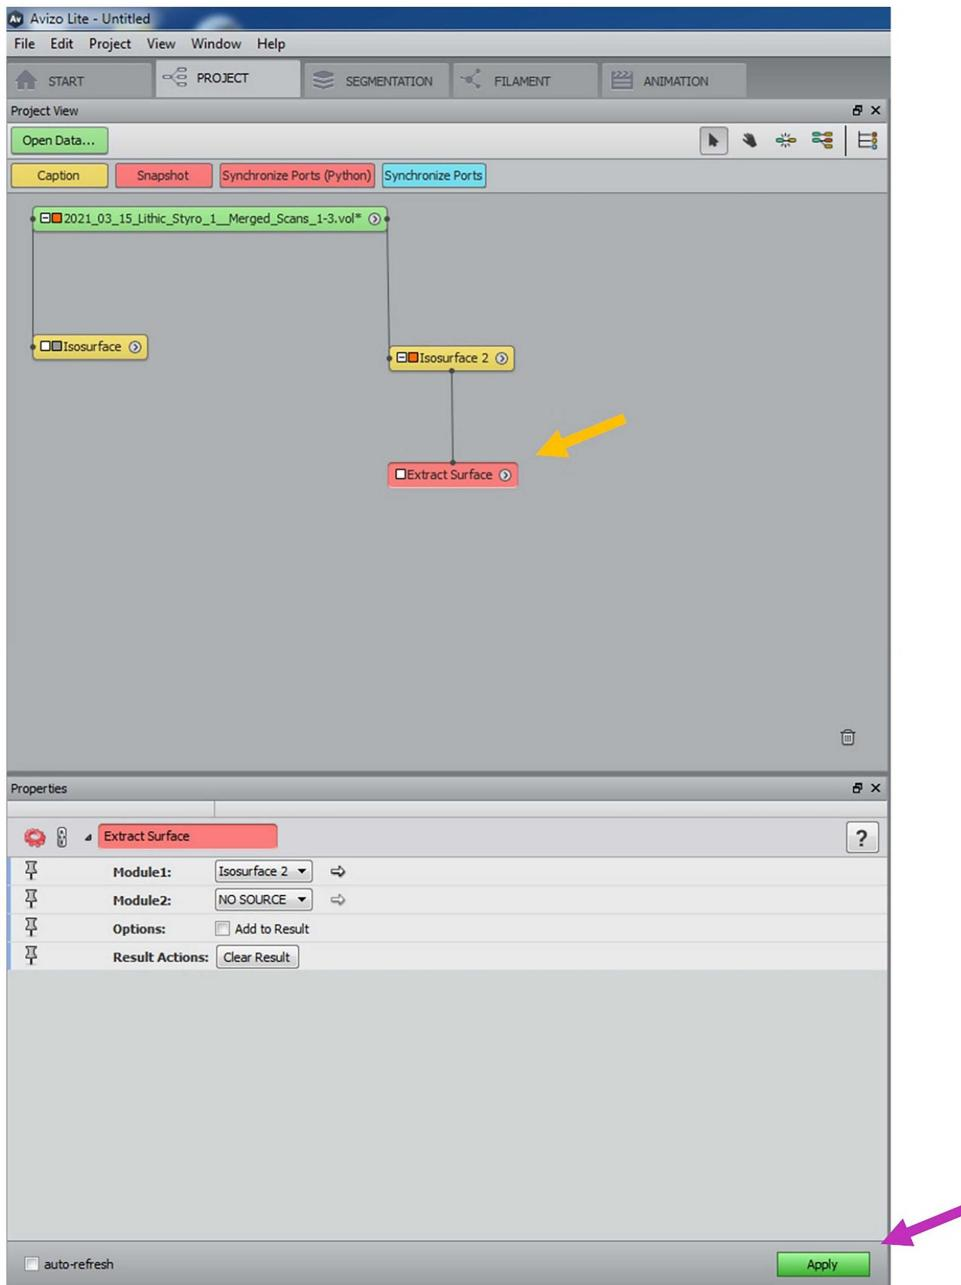

Fig. 20: Newly created 'Extract Surface' label from Isosurface.
24.3 Select the newly created label called 'Extract Surface' (orange arrow in Fig. 20).
- 24.4** Leave all parameters in the 'Extract Surface' menu as is and click 'Apply' to generate extracted surface (pink arrow in Fig. 20).